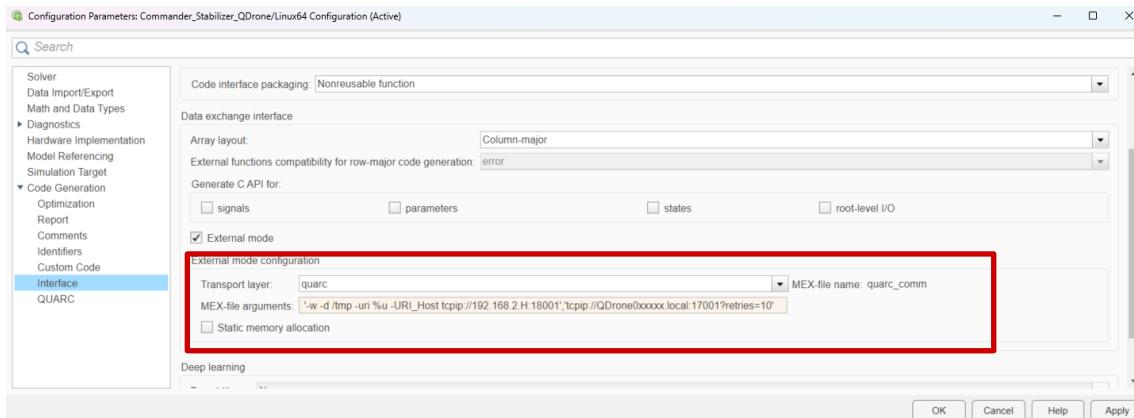

Figure 3. Model Configuration Parameters in the Commander_Stabilizer Model
- Expand **Code Generation** on the left side of the window, click on **interface** and set the **MEX-file arguments** (Figure 3) as follows